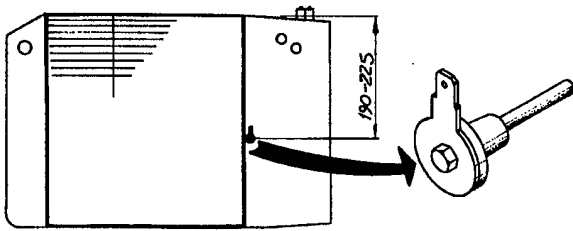

Figure 1 — Low Water Sensor
- a. Remove radiator and drill a 5/16" (8 mm) diameter hole in the header tank as shown in Fig 1.